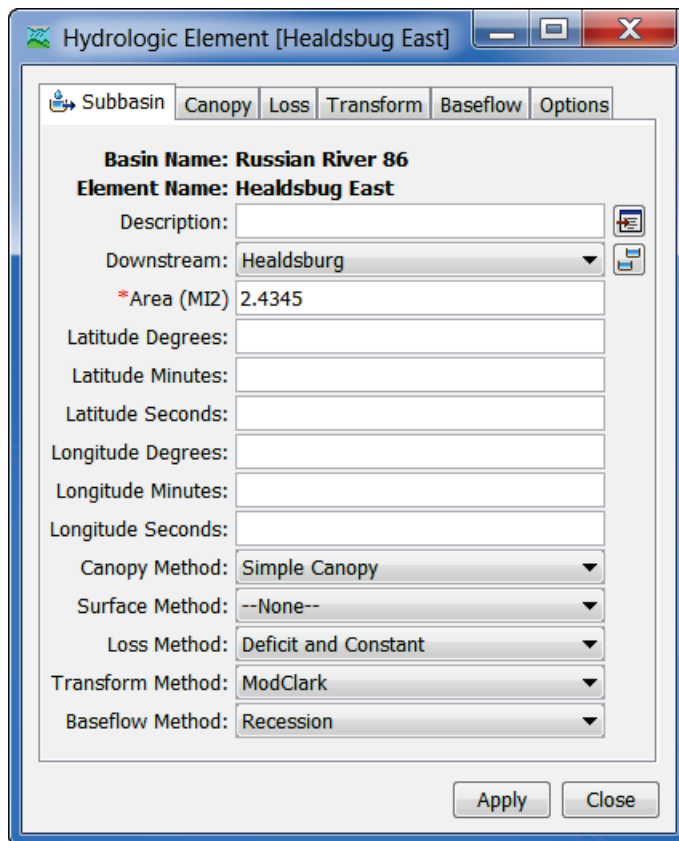

Figure L.5 HEC-HMS Editor - Subbasin
2. The HMS editor for subbasins will open (Figure L.5). This editor allows the user to change parameters that are specific to an HMS subbasin. For further detail on this editor, reference the HEC-HMS User's Manual.
3. To close the HMS editor for subbasins (Figure L.5) click .